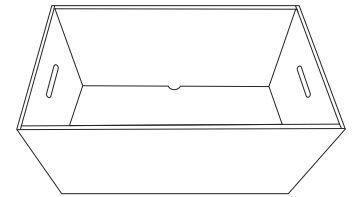

Figure 15
11. Box is assembled. (See Figure 15)